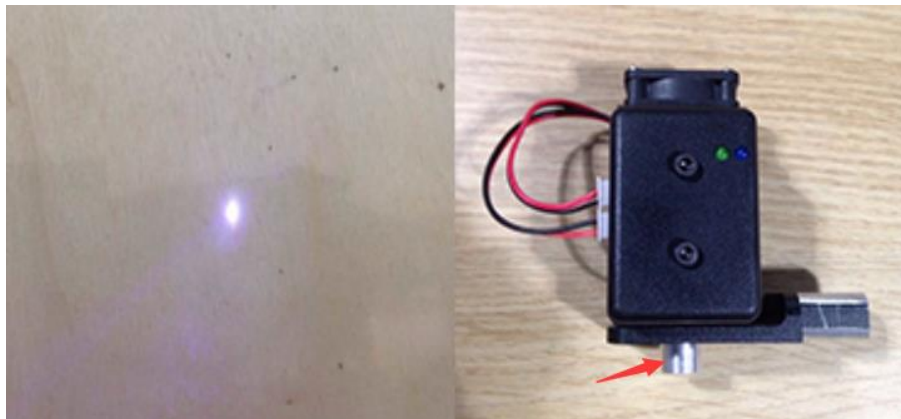

Figure 5.80 Adjust the laser focus
- If you cannot set the laser to be at its minimum focus, it's probably because the focal length is long. To shorten the focal length, slightly turn the sliver lens screw (as shown in Figure 5.80) on the bottom of the laser kit.